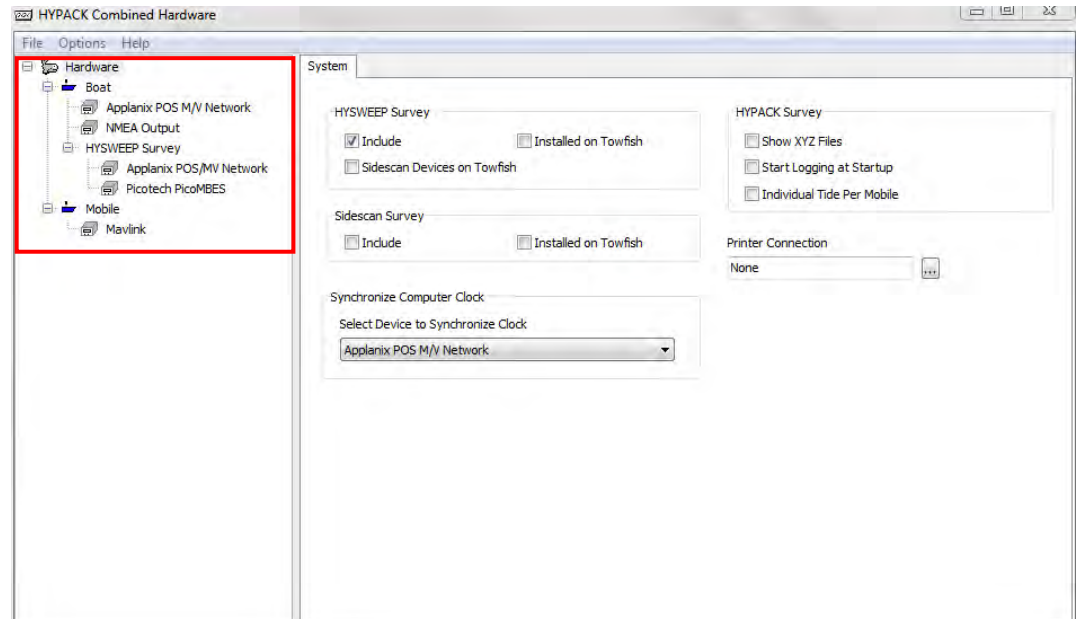

Figure 35: HyPACK hardware settings
- ⇒ The sidebar should show the following parameters (Figure 35)